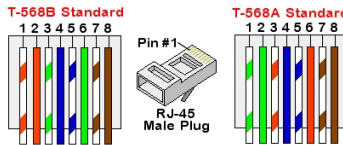

Figure 17: Standard cable wiring
- c. Insert the eight wires into an RJ45 connector (see *Figure 17*).
7. For the switch/router side, use a pre-crimped cable or use a crimper to prepare an RJ45 communication connector: Insert the eight wires into the RJ45 connector in the same order as above (see *Figure 17*).